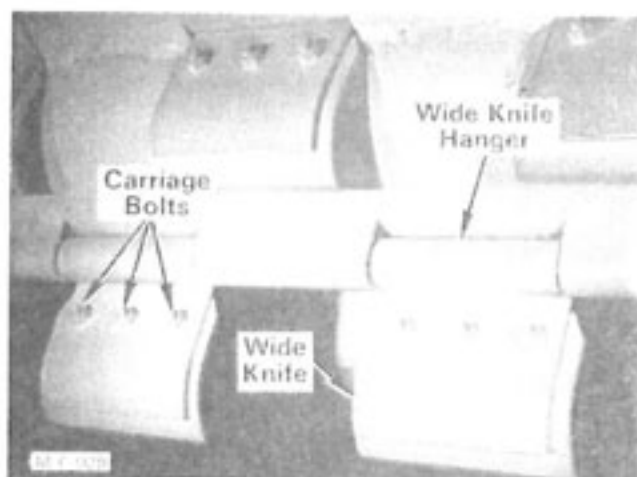

Figure 21 - Rear View
2. Individual knives can be removed by removing the three carriage bolts and locknuts securing the knife to the knife hanger, see Figure 21.